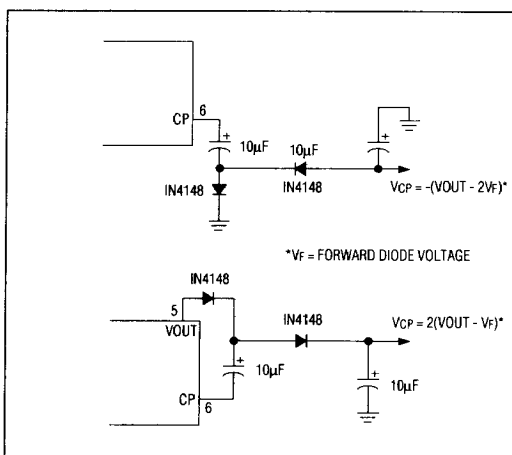

Figure 3. Using the Charge Pump (CP) output as a voltage inverter and/or doubler. Both circuits can be used together.
The Charge Pump (CP) output is a low impedance buffer which swings from ground to V_{OUT} at the oscillator frequency. Two external capacitors and diodes can be connected, as shown in Figure 3, to generate a negative output voltage of -(V_{OUT} - 1.2V) or a positive output of 2(V_{OUT} - 1.2V). 1.2V is the forward drop of 2 silicon diodes. Both circuits can be used at once if desired. With 10μF capacitors, the output impedance of V_{CP} is about 30Ω. If space is critical, the capacitors can be reduced, but with a slight increase in output impedance and V_{CP} output ripple.